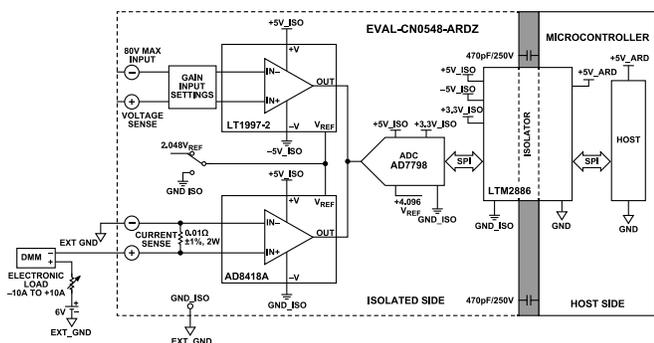
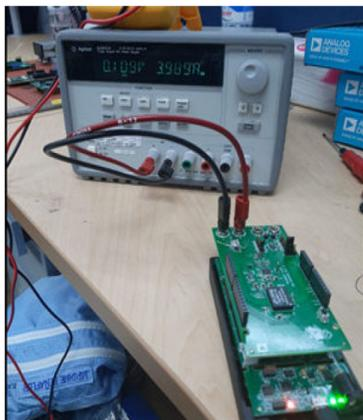

Figure 17. Current Input Test Setup
Figure 18. Current Input Test Setup Photo
8. For current sensing measurement, connect the banana connectors at main DC source as shown in Figure 17 and Figure 18.
The EVAL-CN0548-ARDZ was tested in Unipolar and in Bipolar mode, sweeping the input current from 0 A to 9 A and -9 A to +9 A, respectively, in 100mA steps. The EVAL-CN0548-ARDZ board reading was compared to a Keithley DMM7510 high-resolution 7½-digit multimeter as seen in Figure 17 and Figure 18.